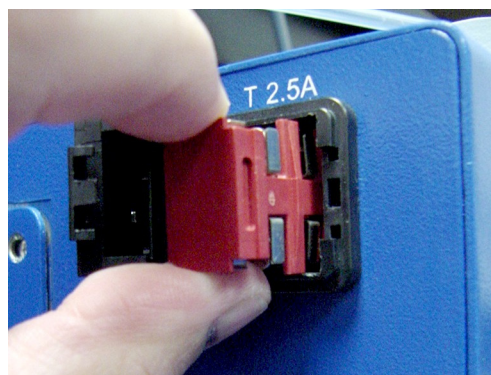

Figure 4-12. Removing the Red Fuse Holder
5. Grasp the red fuse holder with your fingers and pull it out of the unit. See Figure 4-12: